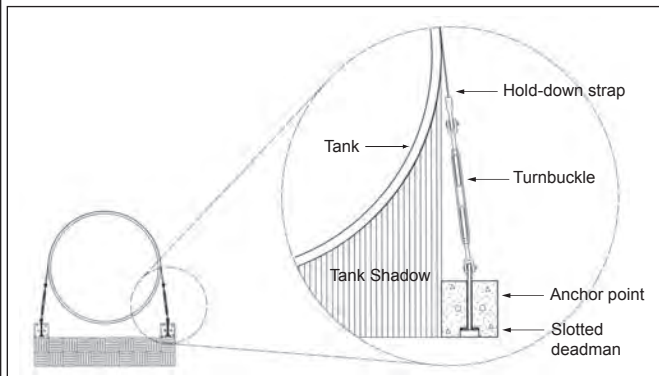
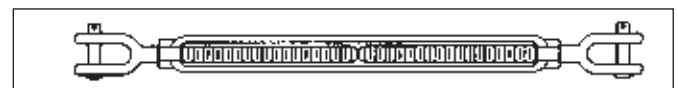

FIGURE 2-1
FIGURE 3-1
2.2.2. Always provide sufficient clearance to allow the deadmen to be set outside of the tank "shadow." See Tank Spacing subsection in the Excavation Parameters section of the Installation Manual. (See FIGURE 2-1.)
3.1.1. Xerxes also offers a turnbuckle (See FIGURE 3-1.) that will connect the deadman anchor point to the Xerxes FRP hold-down strap. When the deadman is properly positioned, this will eliminate the use of cables and cable clamps. See Hold-down Straps subsection in the Anchoring Tanks section of the Installation Manual for more detail. (Also see FIGURE 2-1.)